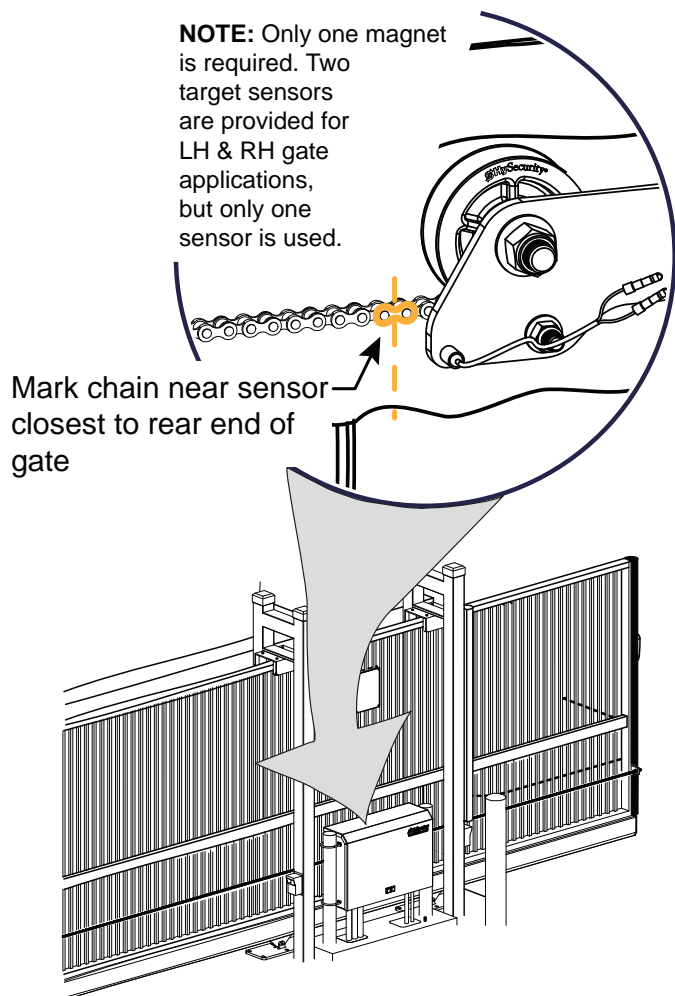

Figure 17. Marking Chain Link for Target Sensor
The LEARN LIMITS display automatically appears after you set the gate weight. To set the open and close limits, take the following steps and see Figure 17:
1. With gate CLOSED, mark chain link directly in front of target sensor. See Figure 17.